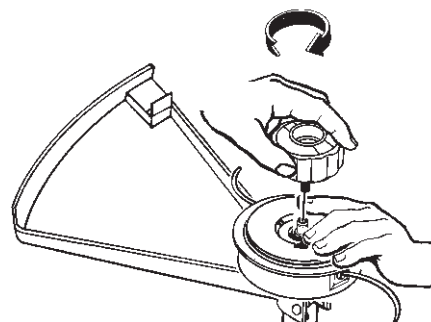

Fig. 14
10. Continue to apply pressure to the spool until the knob can be threaded CLOCKWISE onto the spindle. Tighten the knob securely by hand only (Figure 14).